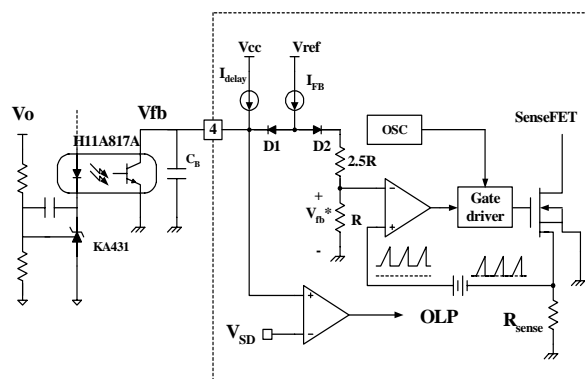

Figure 11. Pulse width modulation (PWM) circuit
3. Feedback Control : FSCQ0765RT employs current mode control, as shown in Figure 11. An opto-coupler (such as the H11A817A) and shunt regulator (such as the KA431) are typically used to implement the feedback network. Comparing the feedback voltage with the voltage across the R_{sense} resistor plus an offset voltage makes it possible to control the switching duty cycle. When the reference pin voltage of the KA431 exceeds the internal reference voltage of 2.5V, the H11A817A LED current increases, thus pulling down the feedback voltage and reducing the duty cycle. This event typically happens when the input voltage is increased or the output load is decreased.
3.1 Pulse-by-pulse current limit: Because current mode control is employed, the peak current through the Sense FET is limited by the inverting input of PWM comparator (Vfb*) as shown in Figure 11. The feedback current (I_{FB}) and internal resistors are designed so that the maximum cathode voltage of diode D₂ is about 2.8V, which occurs when all I_{FB} flows through the internal resistors. Since D₁ is blocked when the feedback voltage (Vfb) exceeds 2.8V, the maximum voltage of the cathode of D₂ is clamped at this voltage, thus clamping Vfb*. Therefore, the peak value of the current through the Sense FET is limited.